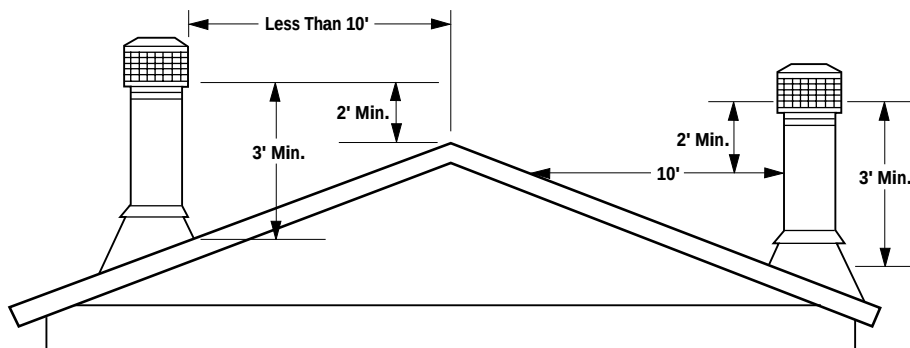

Figure 8
8. *Figure 8* illustrates the correct height of your chimney top. It is unlikely that your installation does not adhere to the installation instructions. However, if not correct, you could experience an unusual downdraft. Usually, the best solution is to increase the chimney height. This may also be necessary if nearby trees, adjoining roof lines or a hill is causing a downdraft condition.